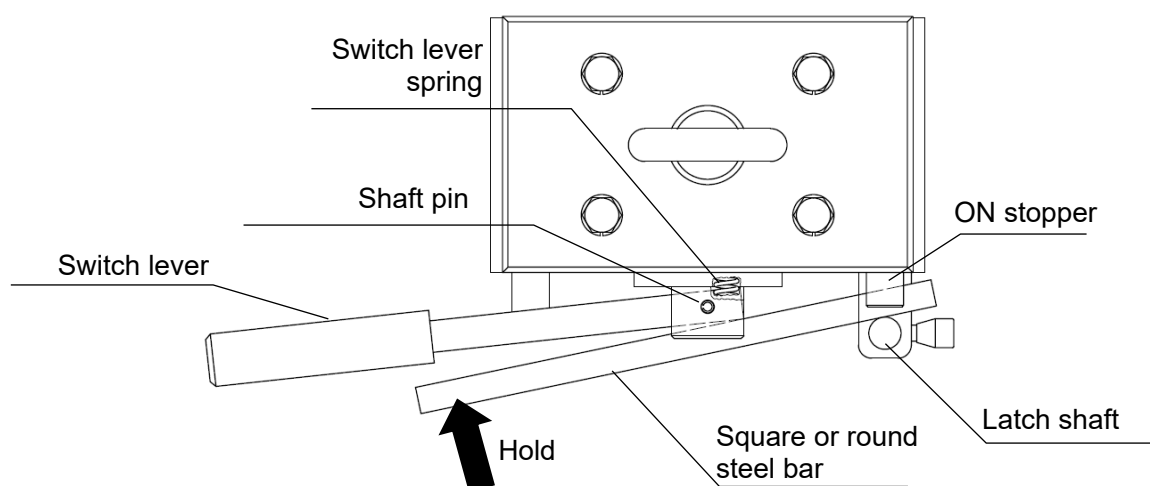

Figure 12-2 Striking the shaft pin
- ◆ For hole alignment, hitch the square $\square 10 \times 10$ x length approx. 200mm or round $\Phi 10$ x length approx. 200mm steel bar on the latch shaft, perform the alignment while pressing the switch lever, and then insert the shaft pin as shown in Figure 12-2.
- Mount the switch cover. (Refer to (1) Switch cover, 2) Mounting.)